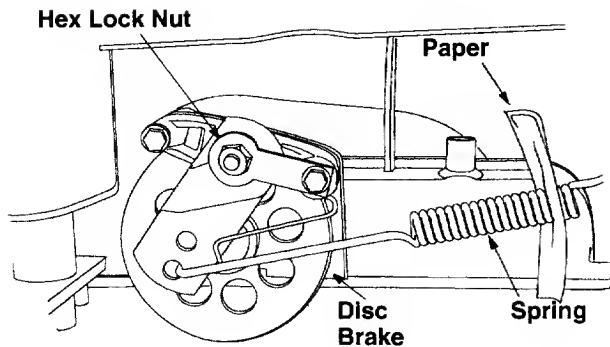

Figure 26
2. Working on the right side of the tractor, try inserting a piece of paper through the coils of the brake spring. See Figure 26.